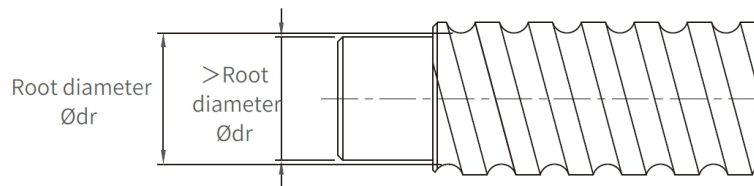

Fig 1.10.4 For Internal Circulation
(1) For the Ball Screws with internal or end cap type circulation ball nut, it is required to have at least one end with complete thread to the end of screw, it is also required to have the journal areas with diameter to be smaller than the diameter of thread root as Fig 1.10.4 shown.